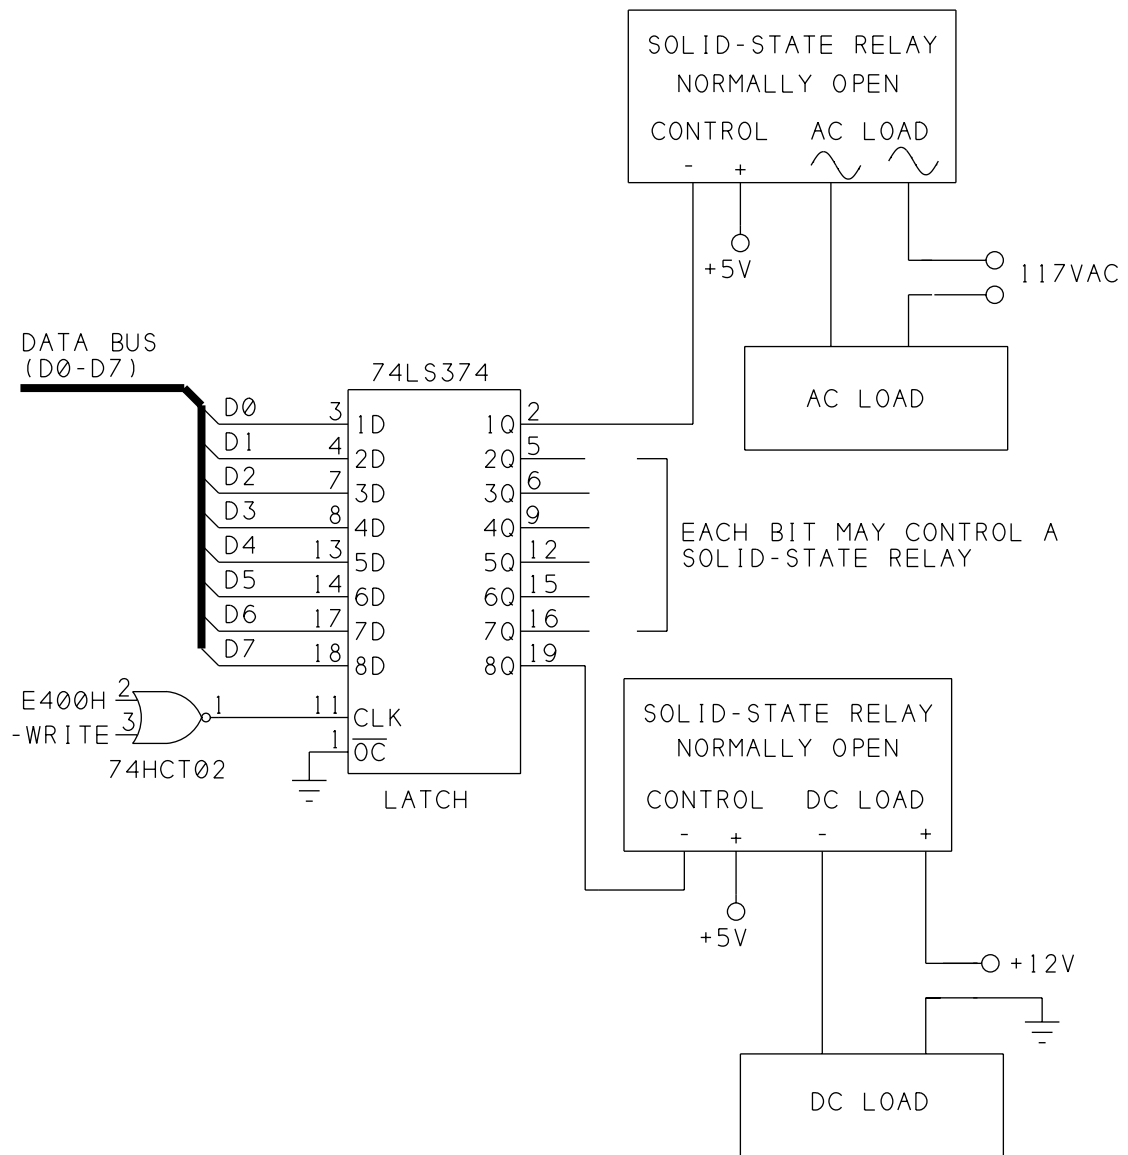

Figure 11-1. Solid-state relays provide an easy way to switch power to AC or DC loads..
You can use your 8052-BASIC system's port bits to control power to all kinds of devices, including those powered by alternating current (AC), or direct current (DC) at voltages other than 5 volts. Figure 11-1 shows two port bits that control solid-state relays that switch power to AC and DC loads.
In Figure 11-1, the control bits are outputs of a 74LS374 latch addressed at E400h, as described in Chapter 6. On a normally open relay, the load switches on when its control bit is low. If you want a logic high to turn on the load, wire an inverter between the '374's output and the relay, or use a normally closed relay. Or you can use a 74HCT374 latch in place of